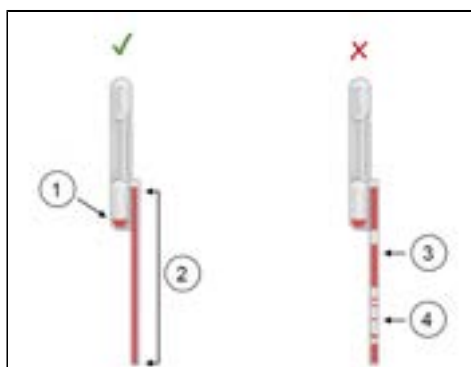

Figure 15. Xpert HCV Test 100 µL Transfer Pipette (Correct and Incorrect Use)
18. **Check that the pipette does not contain air bubbles (Figure 15). If air bubbles are present, dispense the external control material back into the tube, keeping the pipette tip above the surface of the liquid while dispensing, and repeat this step with a new pipette.**